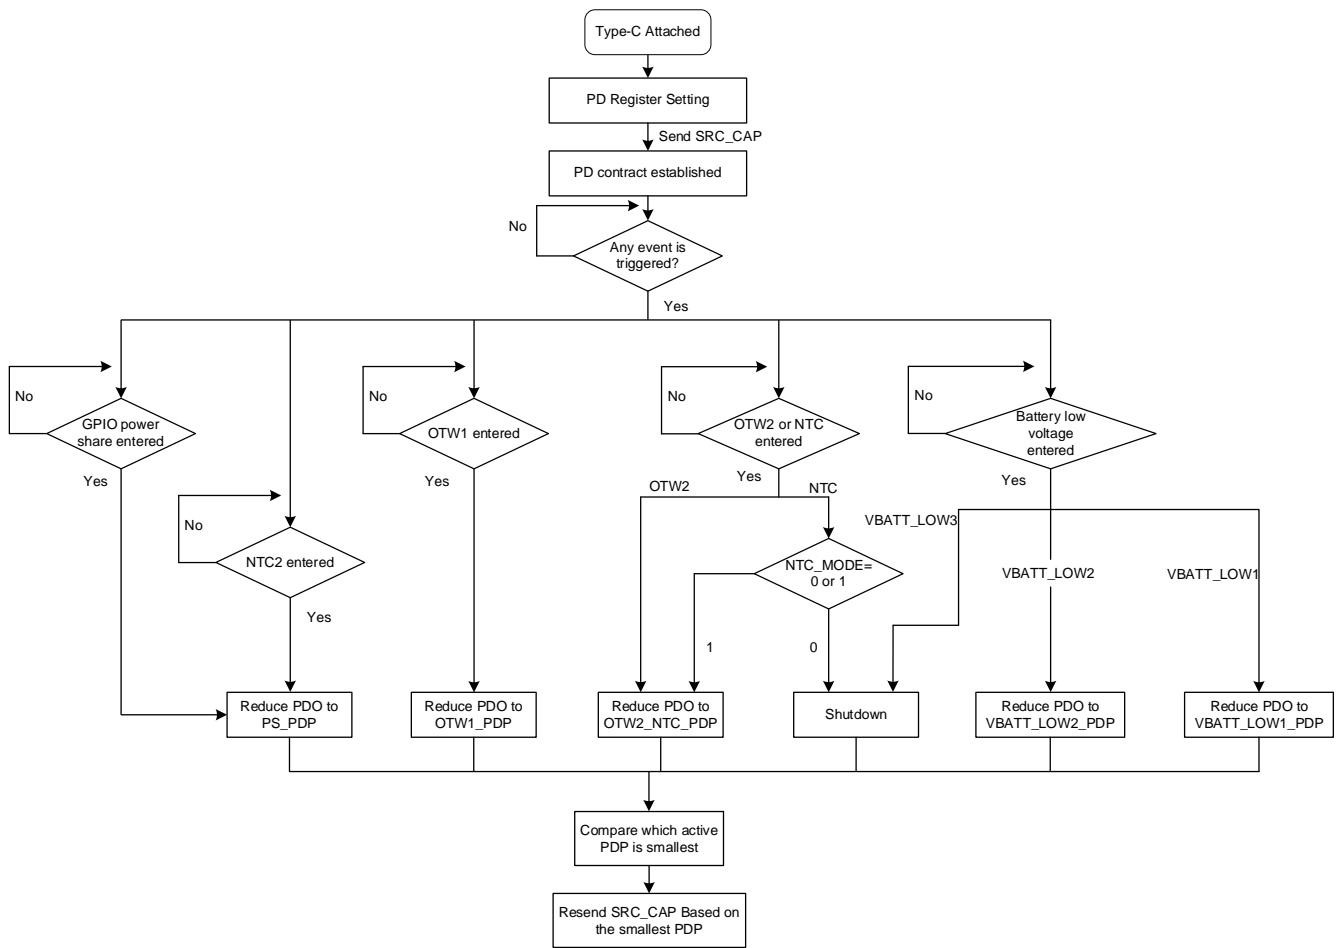

Figure 10-6 PDP State Machine
Figure 10-6 shows the PDP state machine.
(1) See figure10-6 for the GPIO2 power share PDP management. V_{BUS} exceeds 11.2V to trigger power share function (GPIO2 input voltage > 1.87V).
(2) TVS diodes are required to pass the $\pm 8\text{kV}$ contact and $\pm 15\text{kV}$ air discharge per IEC ESD specifications.